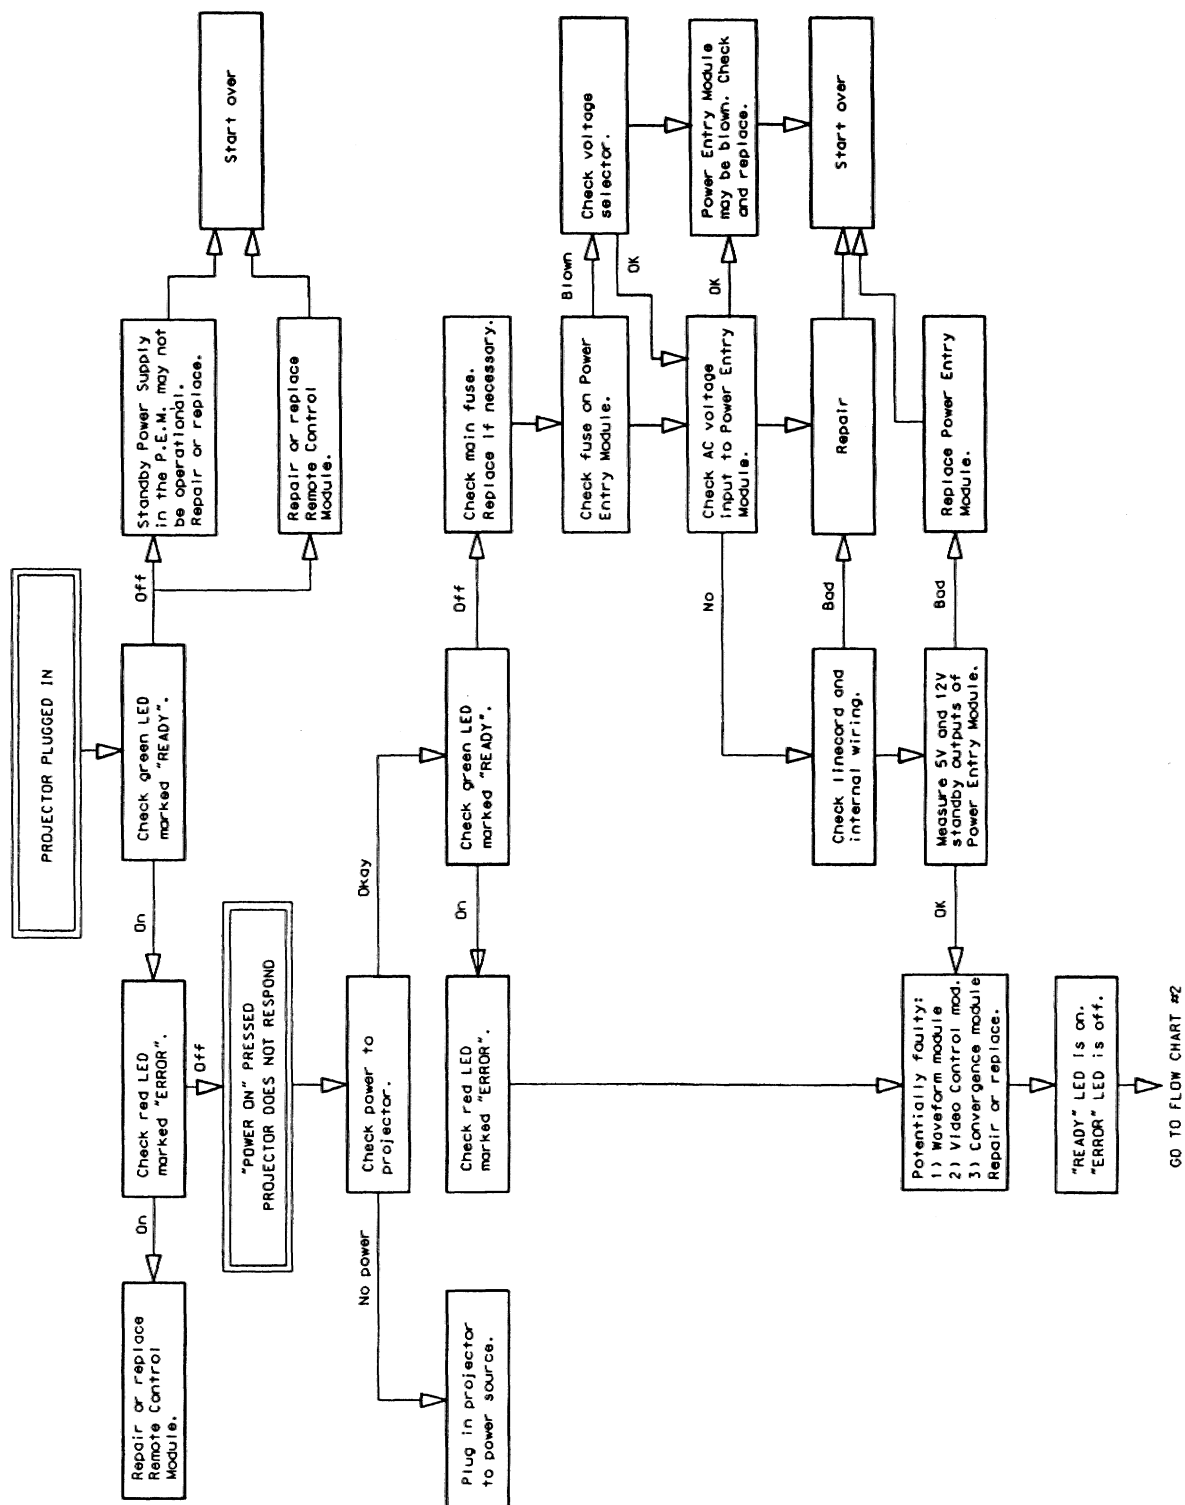

FIGURE 6-1. Flow Chart #1
- *Troubleshooting Flow Charts* (Figures 6-1 to 6-5)